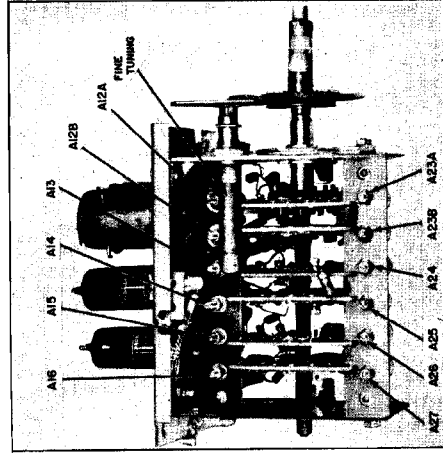

Figure 5-8—Location of Alignment Points—Tuner 470233
- 5) Refer to figure 5-8 and 5-9 for location of alignment points.